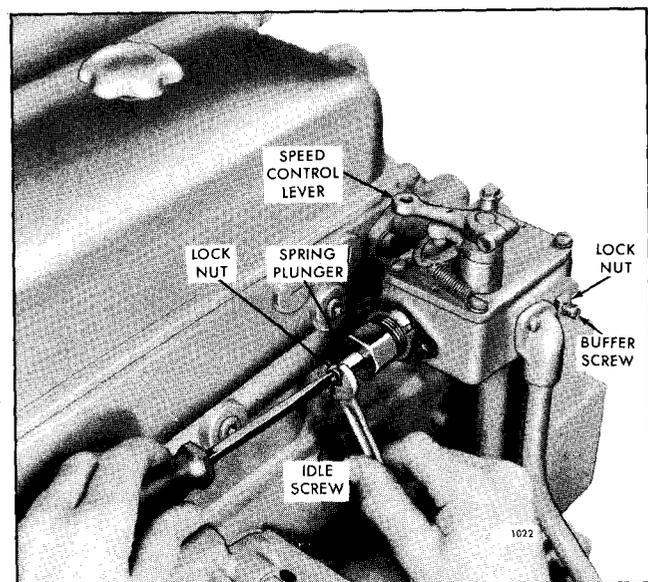

Fig. 8 - Adjusting Engine Idle Speed
2. With the engine running, at normal operating temperature and with the buffer screw backed out to avoid contact with the differential lever, turn the idle speed adjusting screw until the engine operates at approximately 15 rpm below the recommended idle speed (Fig. 8).
1. With the engine running at normal operating temperature, turn the buffer screw in so it contacts the differential lever as lightly as possible and still eliminates engine roll (Fig. 8).